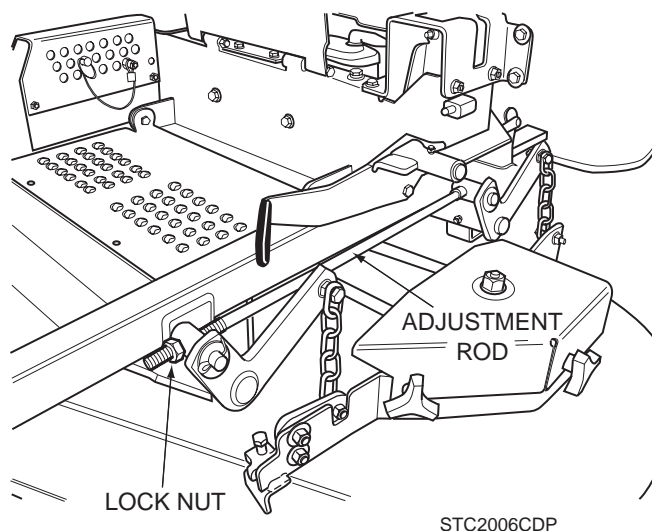

Figure 6-5. Cutter Deck Adjustment
1. Loosen the lock nuts on both adjusting rods. (See Figure 6-5).